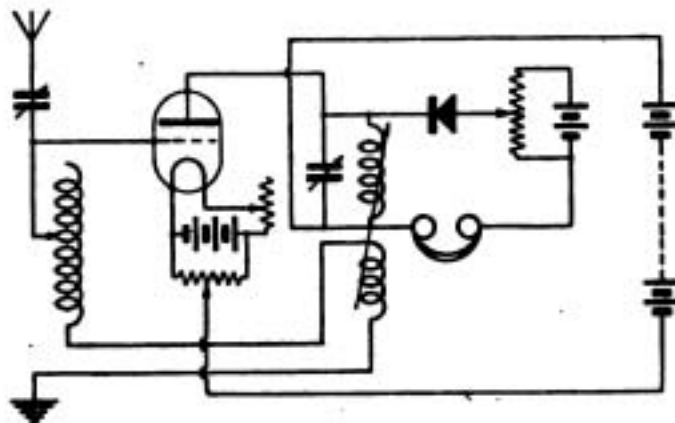

Fig. 1.
"M.G." (Clifden).—We are afraid your requirements are rather vague. We cannot give detailed instructions for making a set in these columns, but the circuit might be as in Fig. 1, page 404, June 24th issue. A.T.I., 9" x 6" of No. 22. Coupling coil, 3" x 3" of No. 22. Closed circuit coil, 7" x 5" of No. 26. Condenser, 0.0005 mfd. Crystal—carborundum. Aerial as long and high as possible, up to 100'.
(1) Alter the set to the diagram shown (Fig. 1). (2) Probably, but we cannot give exactly voltage to step down to, as this would depend on the winding of the coil. (3) Screening does occur in special cases as, for instance, by the presence of a mountain mass between transmitter and receiver. In other cases cause may be very difficult to ascertain, and when ascertained it may be difficult to remove. (4) Present arrangement of crystals is O.K. It is not necessary to short the battery terminals when no battery is employed.